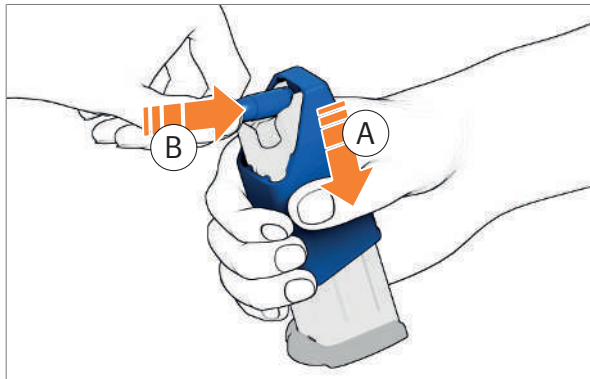

Fig. 50: Pushing cartridge under the magazine lips
2. Press loading aid downwards and hold it (Fig. 50).
3. Push cartridge base forwards under the magazine lips (Fig. 50).